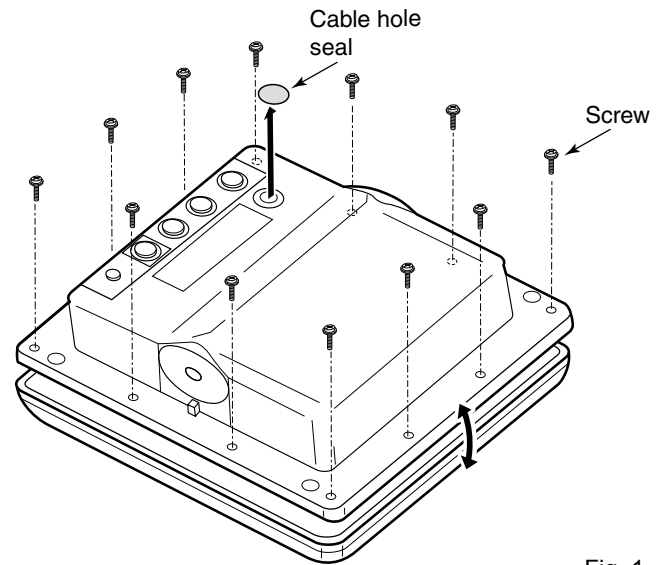
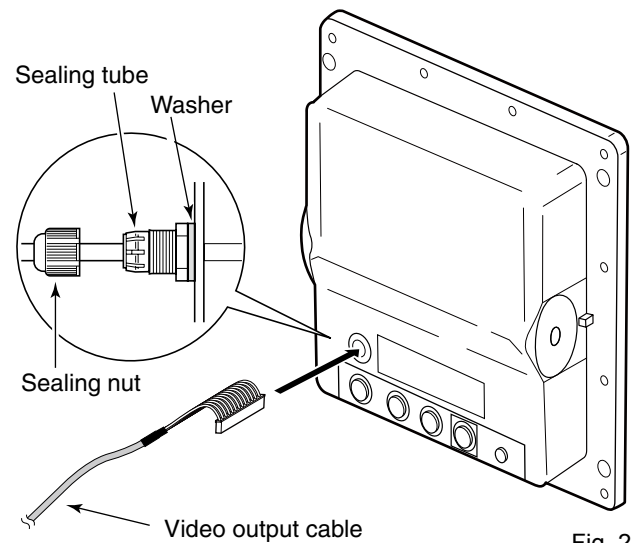

Fig. 1
Fig. 2
① The monitor requires the resolution of 640 × 480 or higher.
1. Remove the cable hole seal on the left of the serial number label of the display unit. (Fig. 1)
2. Remove the 12 screws from the display unit's rear panel. (Fig. 1)
3. Slowly open the rear case and disconnect the four connectors from the display's main board. (Fig. 1)
- ① One of the connectors has a lock. Hold the release on connector head to disconnect the connector.
4. Pass the video output cable through the hole, then screw in and tighten the sealing tube. (Fig. 2)